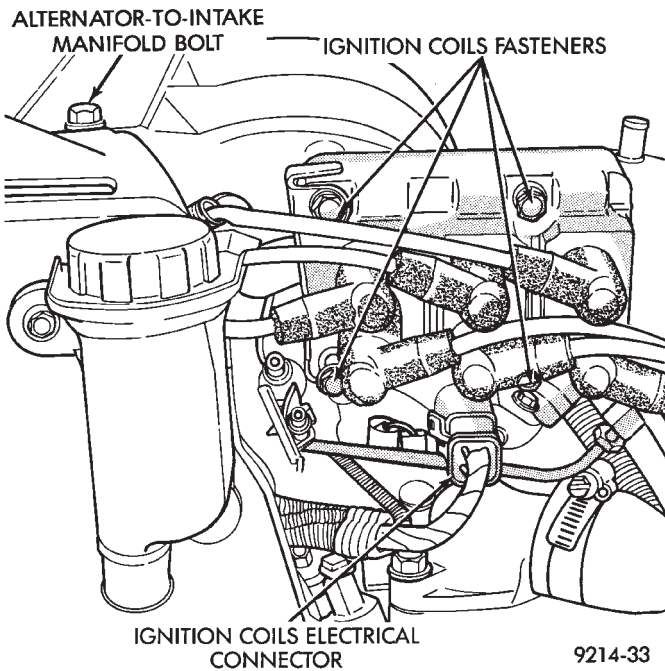

Fig. 2 Ignition Coils Electrical Connection
(1) Check ignition cable routing from the coil pack to the spark plugs. Verify the cable are routed in the correct order and are fully seated to the coil and spark plug.
(2) Check direct ignition system (DIS) coil electrical connection for damage and a complete connection to the coil (Fig. 2).